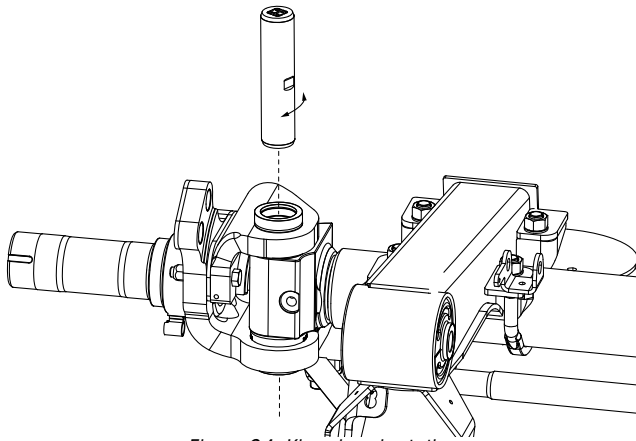

Figure 24: Kingpin orientation
20. Check alignment by sliding the new kingpin through both kingpin housings to ensure no binding is present (Figure 24 on page 16).
4. **Position** the steer knuckle (Figure 24 on page 16) over the axle end and align to kingpin hole.
5. Orient kingpin above the steer knuckle (Figure 24) so the draw key notch is facing the draw key passage.